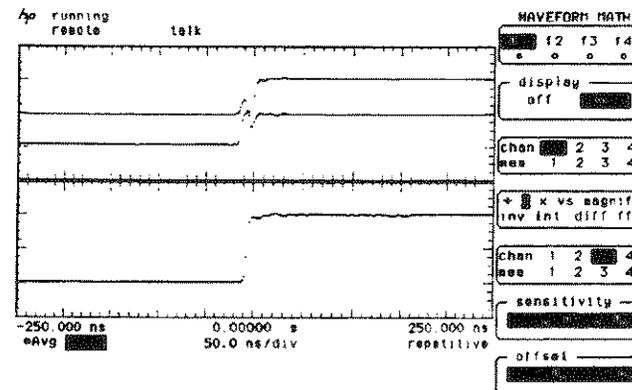

Figure 9-6. Channel 1 Minus Channel 2 (or 3)
- Press **TIME BASE** and set the horizontal display to 50.0 ns/div (see Figure 9-6) . This display is best viewed when the oscilloscope is in repetitive acquisition mode.